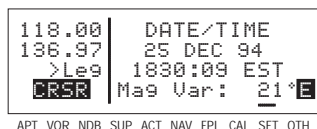

Figure 5-48
4. Move the flashing part of the cursor to the E/W (east/west) field and select whether the magnetic variation is easterly or westerly (figure 5-48).